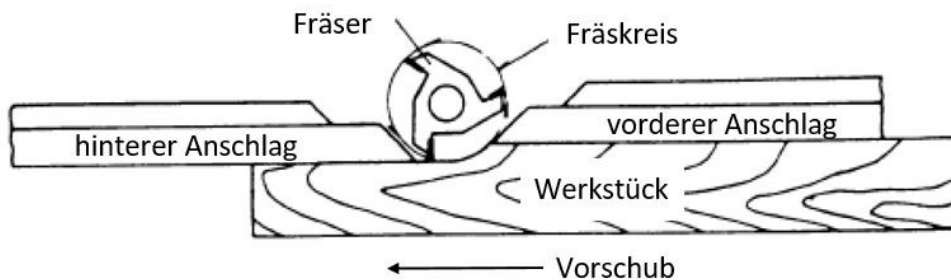

Fig.6-15: Front stop too far back
3. The front stop should be advanced until it touches the workpiece, as shown in Figure 6-15. The rear stop will then be in line with the cutter circle.